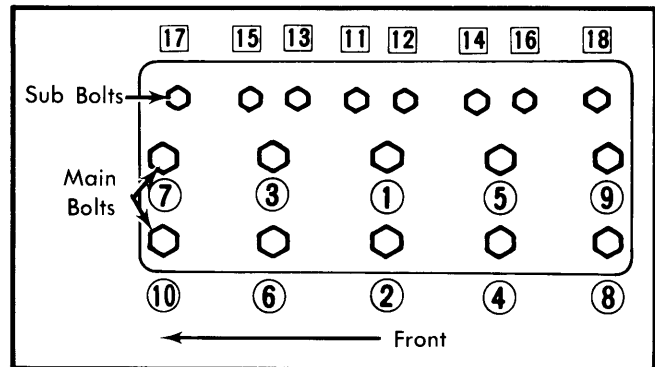

Fig. 1 Cylinder Head Tightening Sequence (Remove in Reverse Order)
3) Remove rocker shaft assembly. Remove push rods and keep in correct order for installation. Remove cylinder head bolts, loosening in several steps in reverse order of tightening sequence. See Fig. 1. Remove cylinder head.